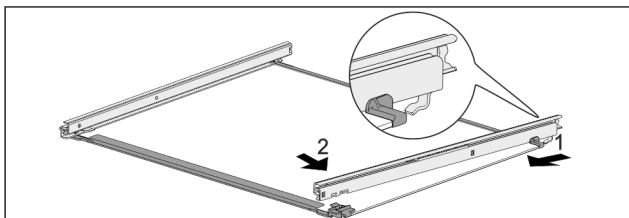

Fig. 70 Glass shelf with rails
- ▶ Hook in rail at the back. Fig. 70 (1)
- ▶ Hook in rail at the front. Fig. 70 (2)